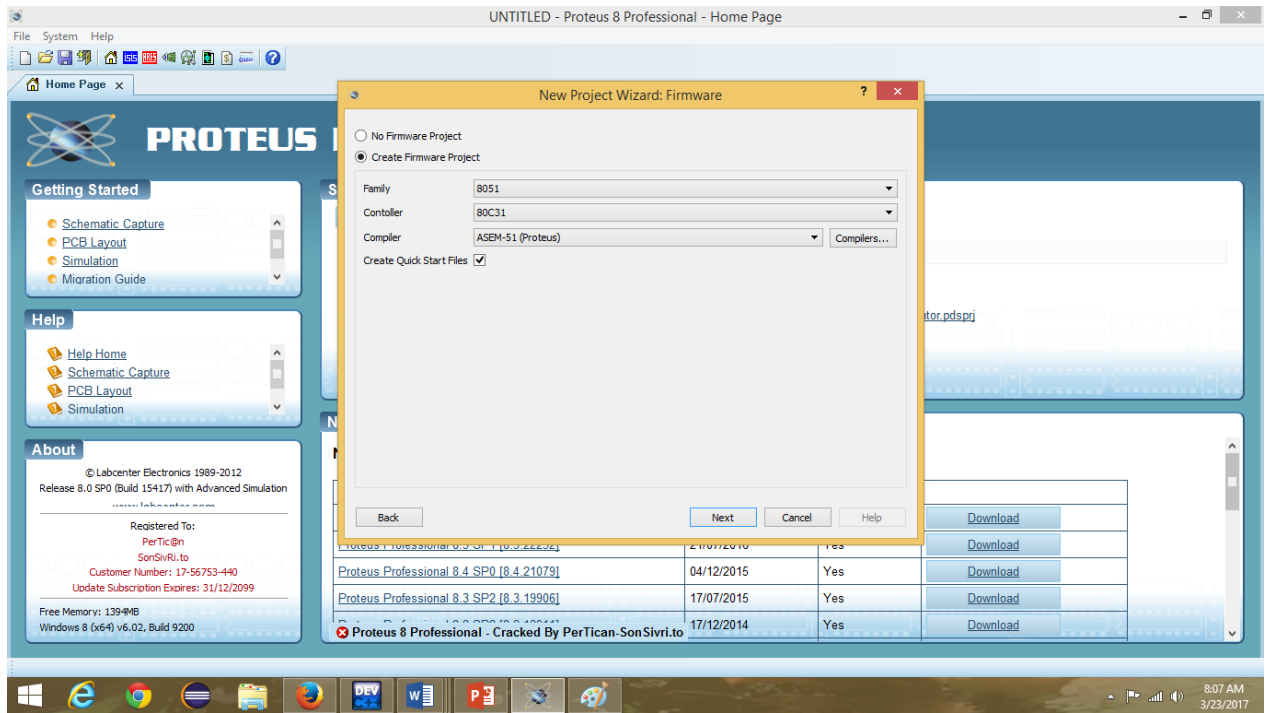

Figure 5
7. Now Select design template/layout as shown in figure 5.